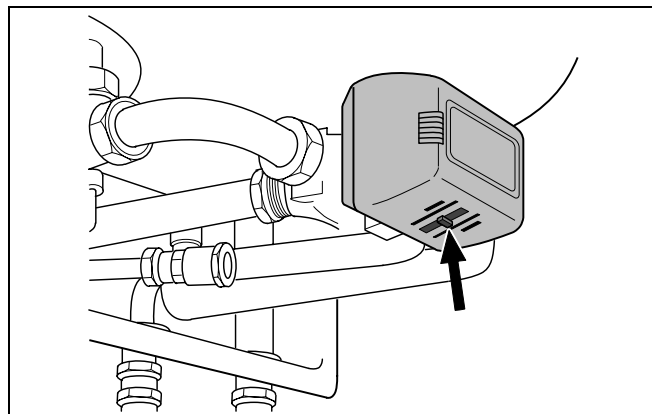

fig. 24 Mechanical switch on the three-way valve
- Move the mechanical switch on the three-way valve to centre position (fig. 24) (applicable for 800-24T25 and 800-29T25 only) and systems with an external storage-type water heater.